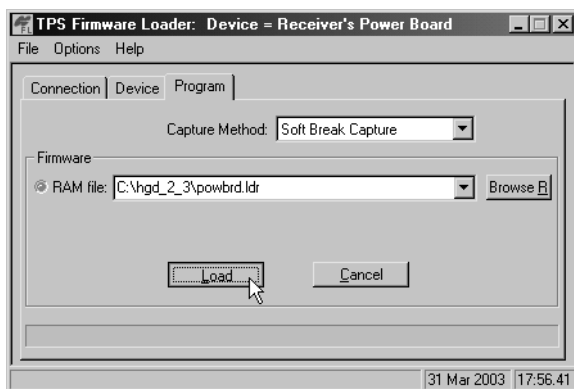

Figure 4-21. Program Tab Settings
8. Select the **Program** tab and set the Capture Method to Soft Break Capture (recommended) (Figure 4-21).
9. Browse for and select the Power board's RAM file (Figure 4-21).